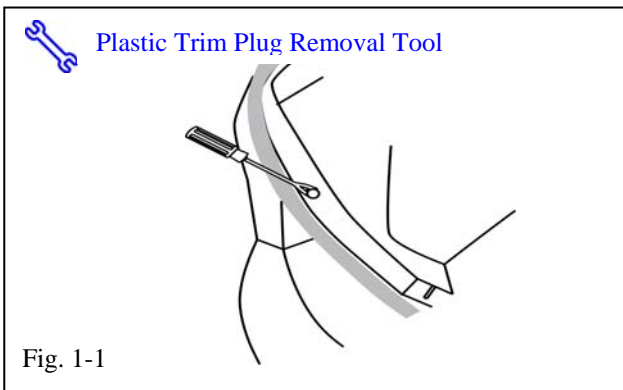

Fig. 1-1
-  (a) Locate attachment points. Remove plug with trim plug removal tool and discard. (Fig 1-1.)